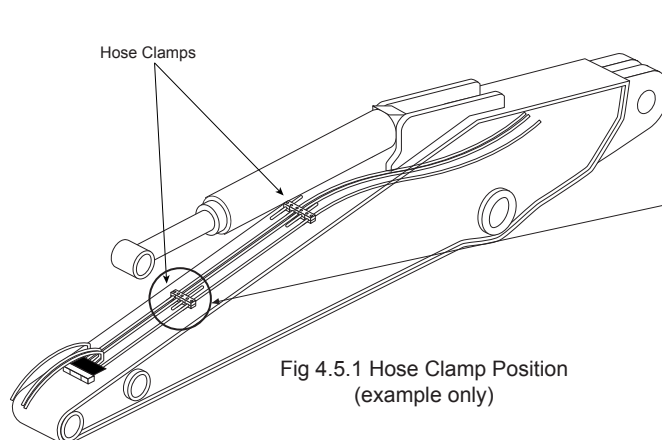

Fig 4.5.1 Hose Clamp Position
- Determine best position for the hose clamps provided. Prepare surface of the dipper arm for welding the clamps into position. Weld clamp assemblies ensuring that only the vertical ends of the clamp brackets are welded. Touch up paint the dipper arm and clamp to match the carrier machine color. (Fig 4.5.1)